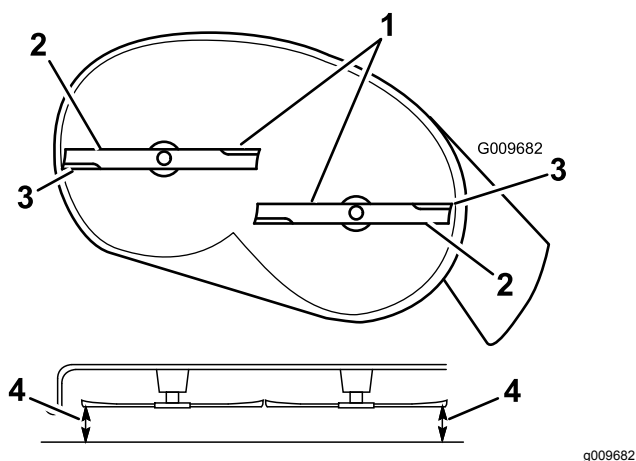
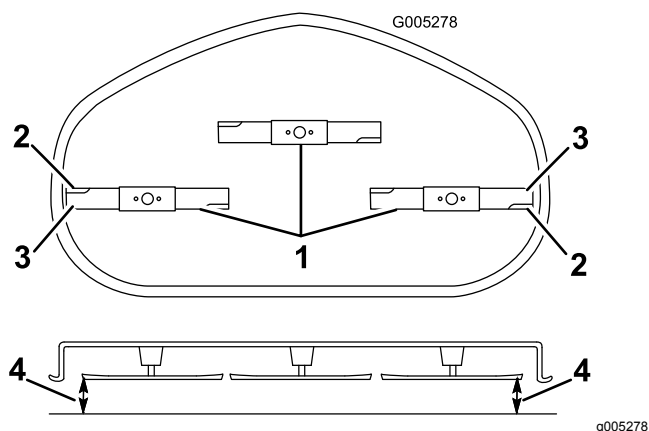

Figure 68
Figure 69
4. Carefully rotate the blades so that they are all side to side (Figure 68 and Figure 69).
5. Measure between the outside cutting edges and the flat surface (Figure 68 and Figure 69).